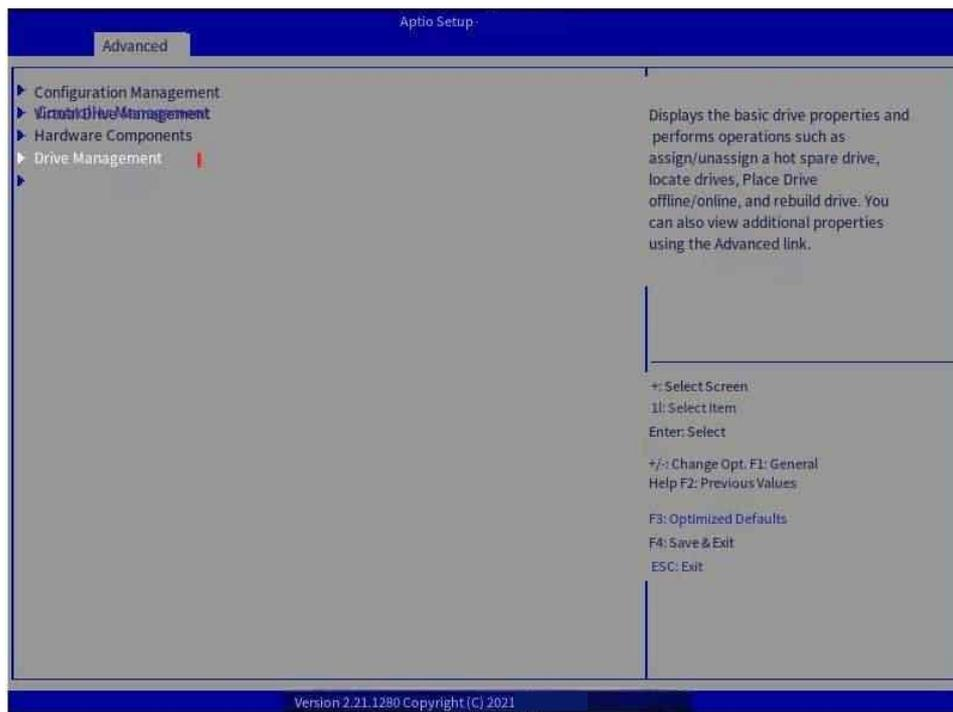

Figure 7-55 Main RAID menu
Step 1: On the home screen, select Main Menu and press Enter, and select Drive Management (Figure 7-55).